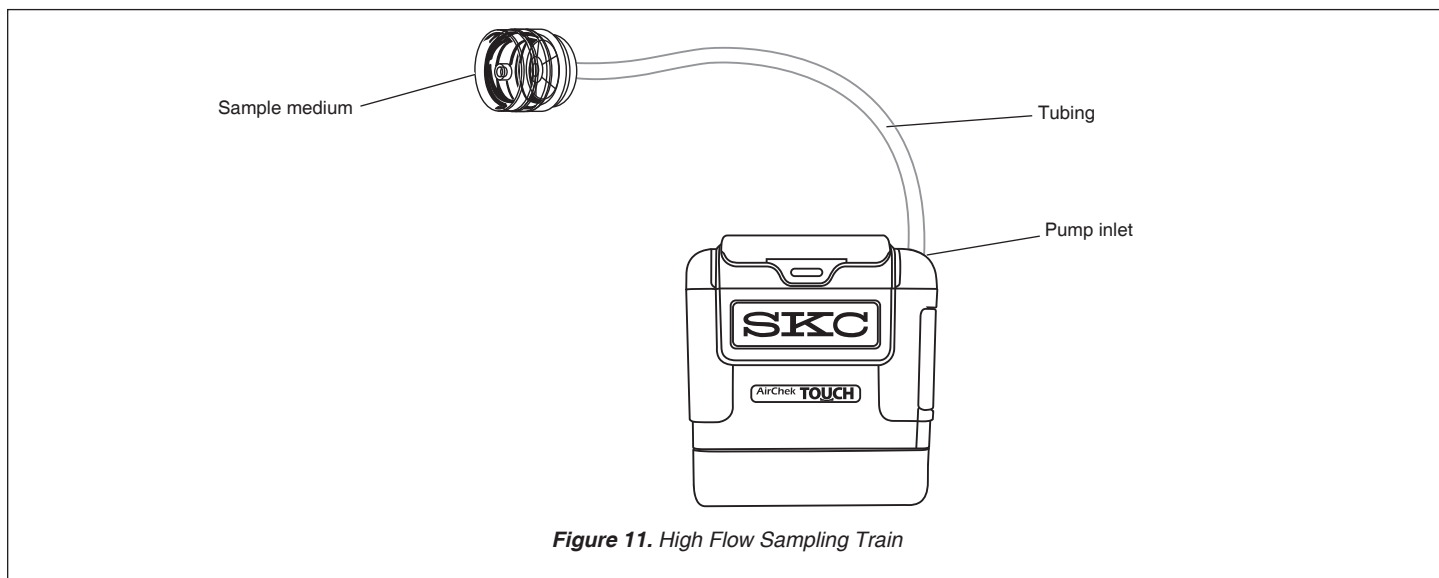

Figure 11. High Flow Sampling Train
3. Set up sampling train (see *Figure 11*).
2. Set up sampling train (*see Figure 11*).